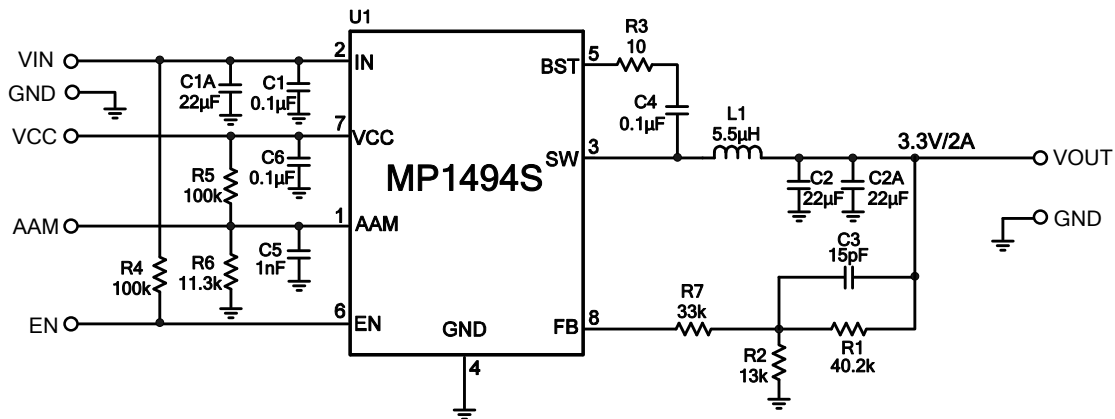

Figure 8: 12V_{IN}, 3.3V/2A Output
- 8) The recommended layout is based on the Figure 8 Typical Application circuit on the next page.
The detailed application schematic is shown in Figure 8. The typical performance and circuit waveforms have been shown in the Typical Performance Characteristics section. For more device applications, please refer to the related Evaluation Board Datasheets.